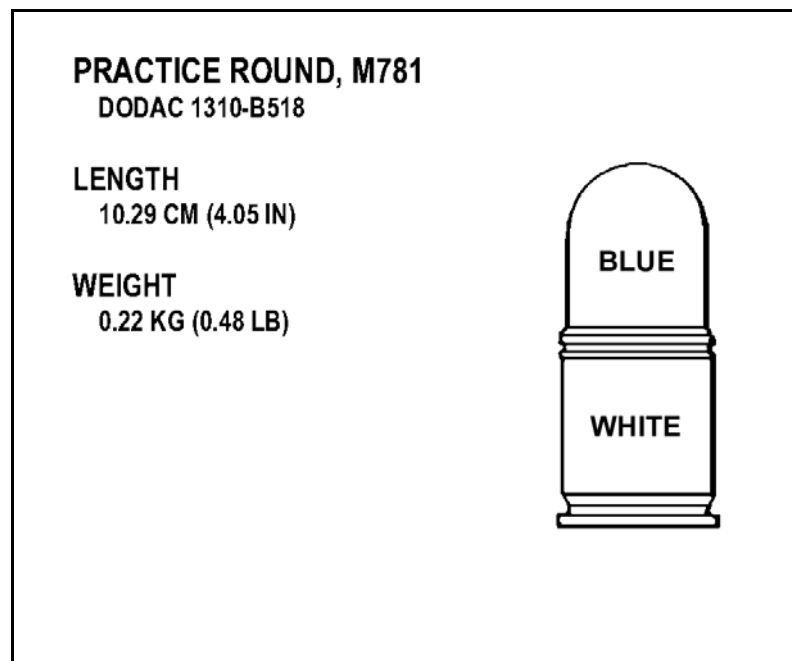

Figure 3-15. Practice round.
(6) *Practice Round*. Used for practice, this round is blue zinc or aluminum with white markings (Figure 3-15). It produces a yellow or orange signature on impact, arms between 14 and 27 meters, and has a danger radius of 20 meters.